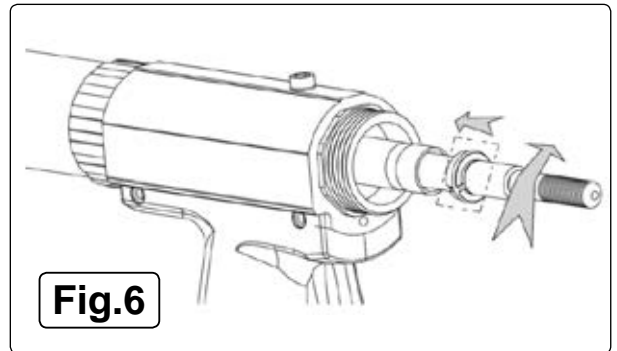

Fig.6
- 5.1.5. Select required mandrel as per rivet nut size, push back sliding sleeve and screw in selected mandrel then release sliding sleeve, fig.6.